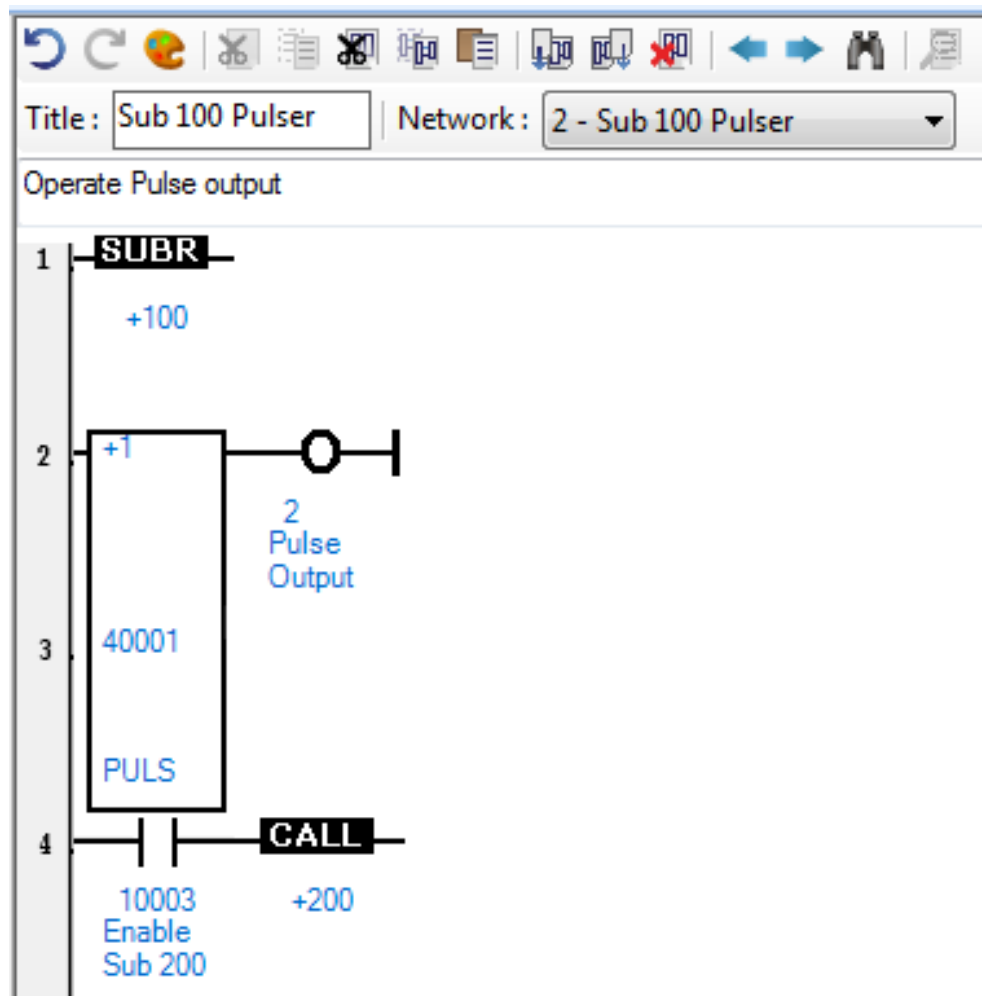

Figure 48: Subroutine 100 Network with CALL
- Go back to the first subroutine in network 2, and add a second **CALL** function controlled by a switch, as shown in Figure 48.